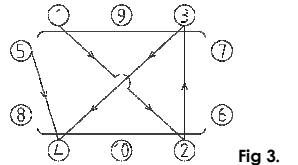

Fig 3.
10. Progressively tighten the inset clip bolts in a staggered clockwise order similar to fig. 3 to ensure the sink does not skew or rotate whilst it is fixed.